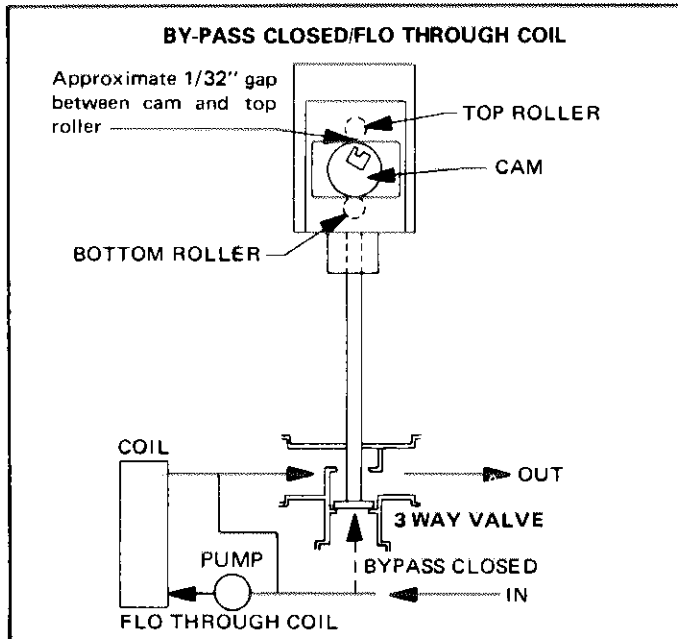

FIGURE 56
- 3 - Remove the jumper installed in step 2. Motor shaft should rotate counterclockwise, lowering valve stem. Refer to Figure 56.